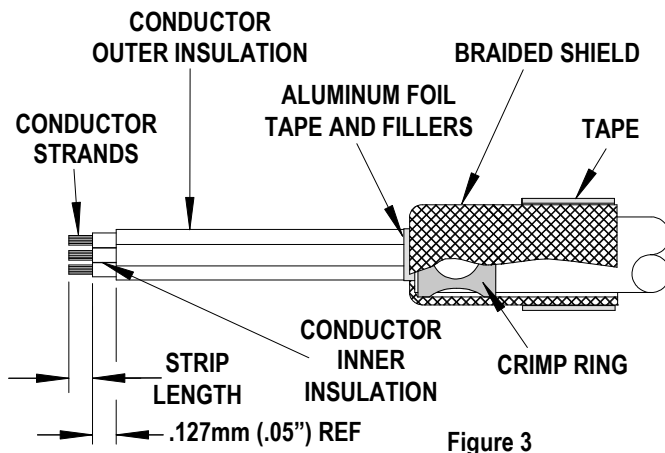

Figure 3
- Strip the inner and outer insulation of the conductors to dimensions shown in Figure 3.